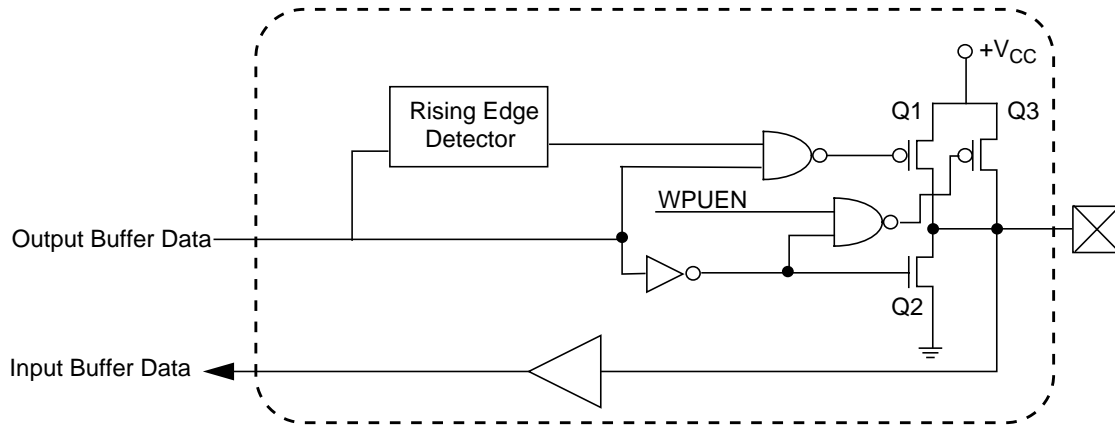

Figure 38. Quasi-Bidirectional Buffer
The quasi-bidirectional drivers have an open-drain output (Q2), an internal pull-up (Q3) and a low-impedance pull-up(Q1). Q2 pulls the signal low whenever the output buffer data is '0'. The weak pull-up (Q3) is active whenever the output buffer data is '1' and WPUEN in PSCON register is set (1). The low impedance pull-up is active whenever the PC87591L-N05 changes the output data buffer from '0' to '1', thereby reducing the low-to-high transition time. The length of time that the low-impedance pull-up is active is determined by HDRV field in PSCON register. A schematic description of this output driver appears in Figure 38.